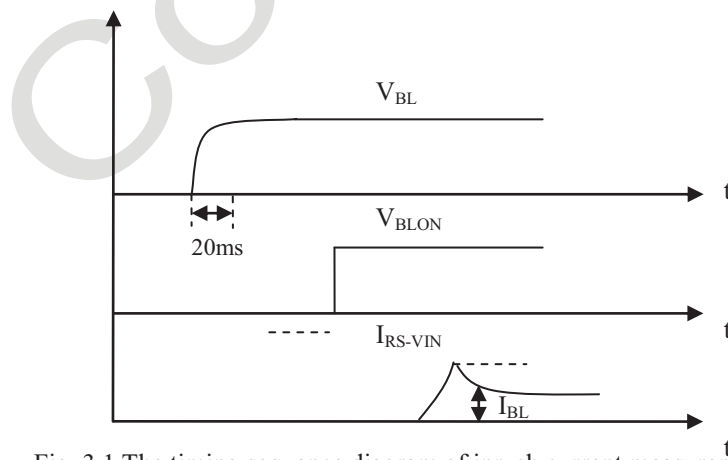

Fig. 3.1 The timing sequence diagram of inrush current measurement
(1) Dimming ratio = 100% (Max.) ($T_A = 25 \pm 5 \text{ }^{\circ}\text{C}$, Turn on for 45minutes).
(2) The measurement condition: V_{BL} rising time is 20 ms. (V_{BL} from 10% ~ 90%), the sequence diagram is shown as Fig.3.1.
(3) 5% ~10%minimum duty ratio is only valid for electrical operation.
(4) Normal: 0 ~ 0.8V; Abnormal: Open collector.